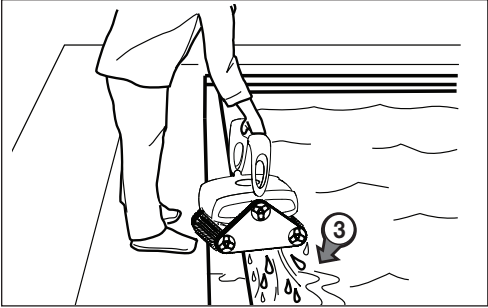

Figure 5. Lift Cleaner From Pool with Handle
3. Hold the cleaner vertically over the pool surface to drain water before removing (Figure 5).